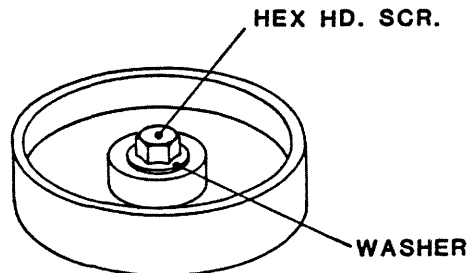

**Figure 4-25 Magnetic Head Assembly**
**4.3.30 MAGNETIC HEAD ASSEMBLY** (Figure 4-25)